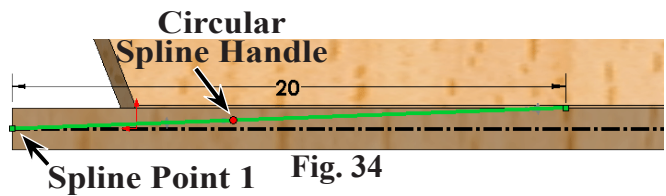

Fig. 34
Step 9. Click the Spline to select it and locate the **Circular Spline handle**  (small gray dot) of **Spline Point 1**, **Fig. 34**. To find the Circular spline handle, start your cursor at the bottom Spline Point, Spline Point 1 and move cursor up along the spline. The Spline Point the Circular Spline handle will highlight as a red circle .